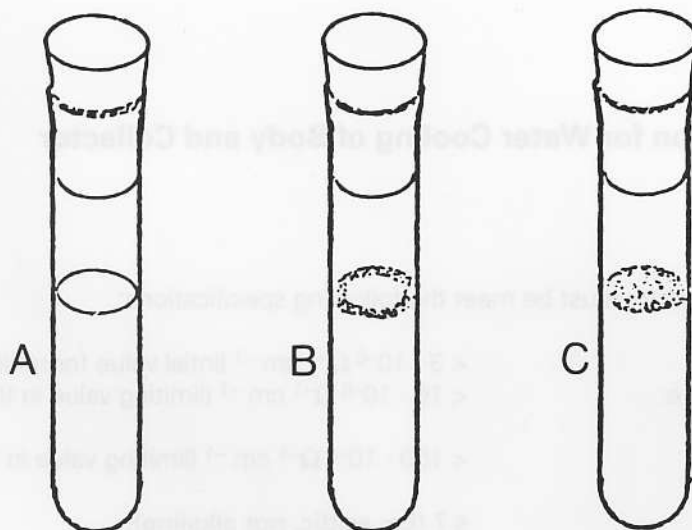

Fig. A1. Test Tube for Foaming Test, Sketch of Water Surface
5. Shake vigorously for 15 seconds using three up and down motions a second. Allow to stand for 15 seconds then compare with sketches Fig. A1 A, B and C.